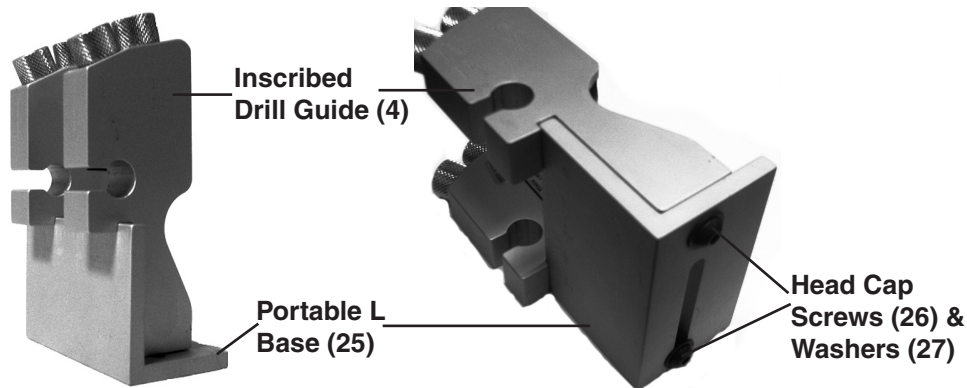

Figure 7
1. The Portable L Base (25) allows the Drill Guides to be utilized without the entire Pocket Hole Jig being moved. Loosen the Knob (8) and remove both Drill Guides (4, 5) from the Drill Guide Rod.
2. Attach the Drill Guides (4, 5) to the Portable L Base (25), using the Socket Head Cap Screws (26) and Washers (27). Using the 3mm Hex Wrench (21), attach the Inscribed Drill Guide (4) to the fixed mounting hole on the right side of the Portable L Base. Attach the other Drill Guide (5) to the floating connection on the left side of the Portable L Base. **(See Figure 7)**